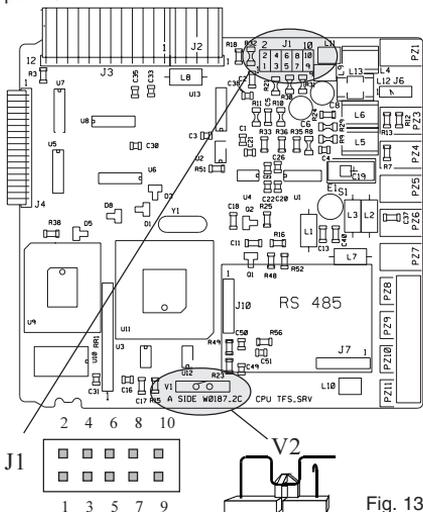

Fig. 13
- 2) Set the dip switch V2 to the open condition (see fig. 13).